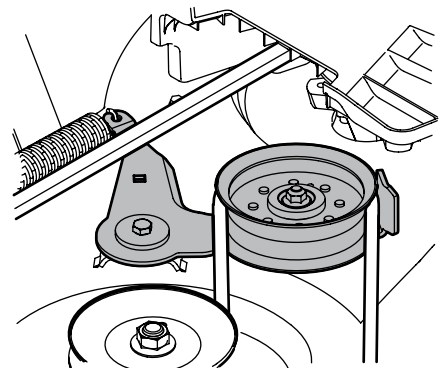

Figure 4-3
8. Working on the right side of the tractor, insert a ¾" drive ratchet wrench, set to *tighten*, into square hole found on the idler bracket. See Figure 4-3.
9. Pivot the wrench forward to move the deck drive pulley forward. See Figure 4-3.